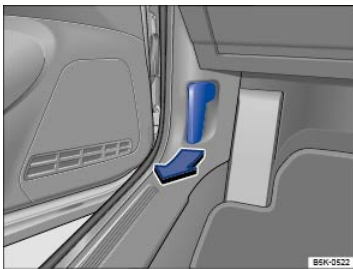

Fig. 172 In the footwell on the driver side: Inside engine hood release lever.
- Open the driver door and pull the inside hood release lever in the direction of the arrow ⇒ Fig. 172. The engine hood is released from its latch by a spring ⇒ ⚠.